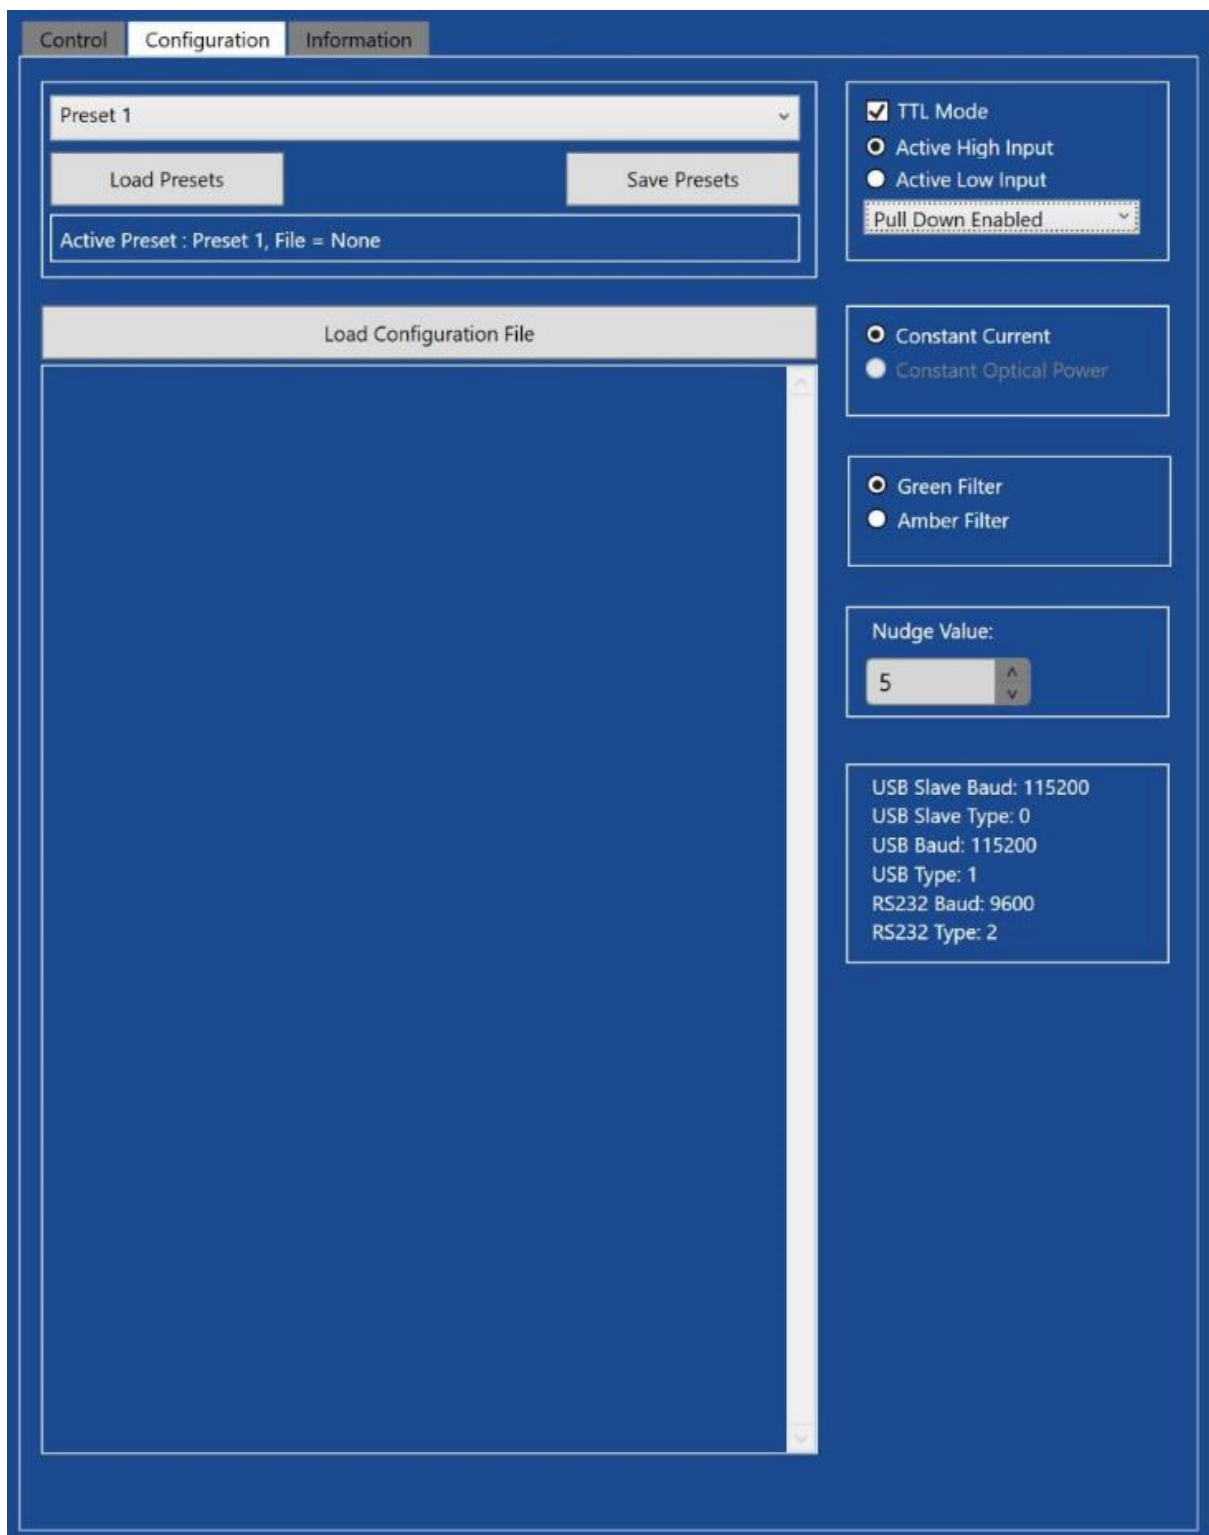

Figure 8: TTL Mode Active
4. Activate the TTL Light Control by ticking the box on the software (Figure 8).
5. Select Active High Input from the drop down menu (Figure 8).
6. Select "100k Pull Up Enabled" (Figure 8).